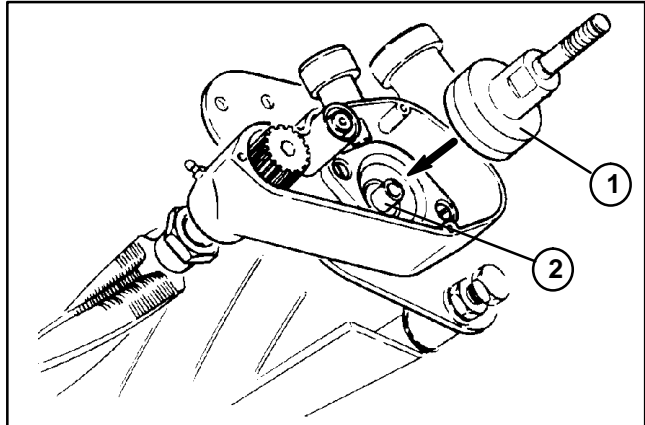

Figure 15
6. Remove clutch adapter from the reel shaft if necessary (Fig. 15).
2. If removed, reinstall clutch adapter to the reel shaft (Fig. 15). Torque clutch adapter to 17 ft-lb (2.4 kg-m).